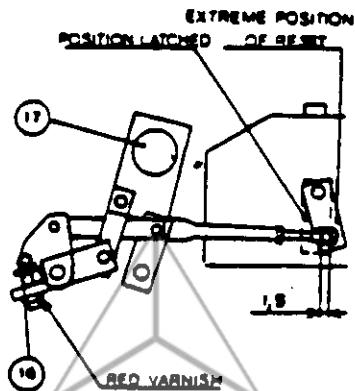

Fig. 14
1) Breaker equipped with signal indication with memory for overload and short circuit release (with or without indication.) (Fig. 14).
a) Adjustment. When breakers are equipped with this accessory, it is necessary to place breaker in open position and adjust screw (16) to effect latching the release. A very distinct click indicates latching. To insure a margin of safety, unscrew $\frac{1}{4}$ of a turn.
- 1) Adjustment. With the breaker in the open position and the release bar latched as illustrated in Fig. 14, adjust screw (30) lengthening linkage until stirrup is against stop (29), then back off ½ turn.